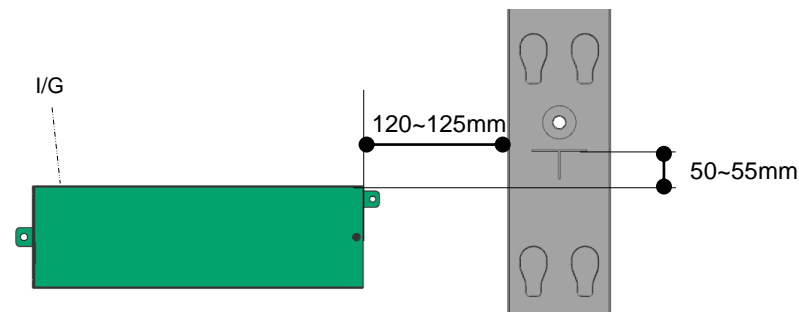

Fig2. Location to Fix I/G
- ※ Installation location: Align the I / G to the point below 50 ~ 55mm on the right frame and fasten the screws. (Fig.2)